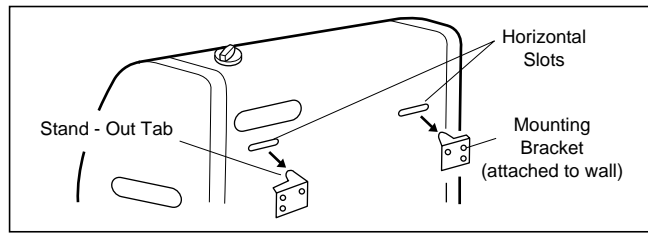

Figure 7
2. After mounting brackets are installed, hang heater on mounting brackets in holes provided at the rear of heater(See Figure 7.).